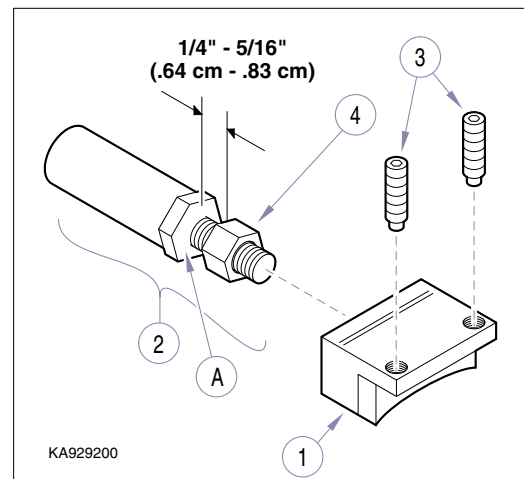

Figure 4-23. Lock Block Disassembly.
- (4) Place brake lever (3) in *unlocked* position.
- (5) Remove four screws (4) and disc lock (5).
- (6) Remove lock block assembly (6).
- (7) Unscrew lock block (1, Figure 4-23) from lock stud (2).